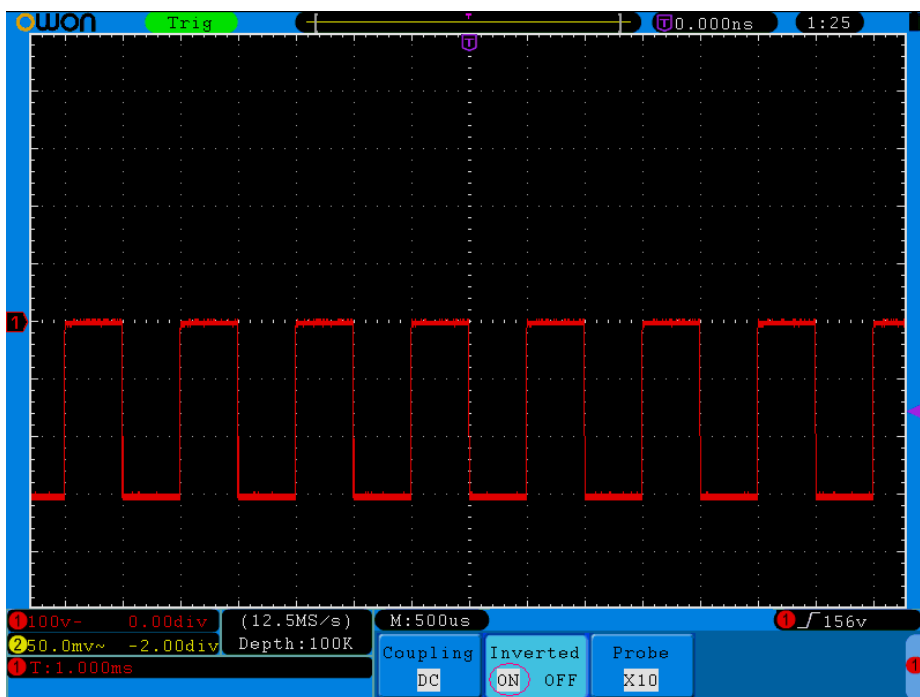

Fig. 5-5 Inverted Waveform
- (1) Press the **CH1 MENU** button to show the **CH1 SETUP** menu.
- (2) Press the **H2** menu selection button and select **ON** for **Inverted** item. The waveform is inverted as it is shown in Fig.5-5.
- (3) Press the **H2** menu selection button again and select **OFF** for **Inverted** item.